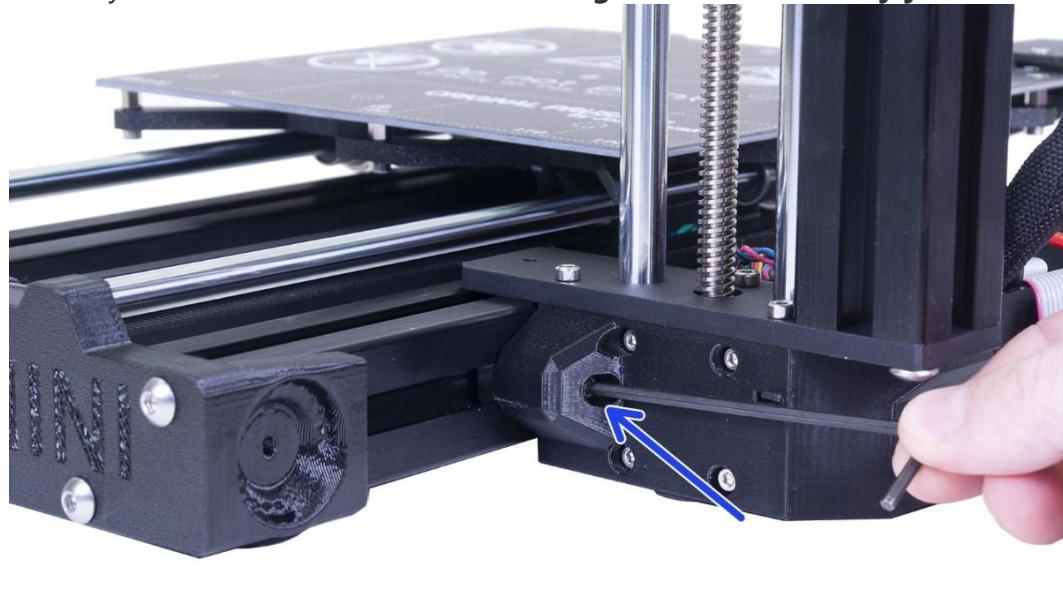

Figure 5.1.13
**B:** As shown in Figure 5.1.13. Use the M3x20 screw and again tighten it just slightly, but ensure you have reached the nut. **DON'T tighten the screw fully yet!**